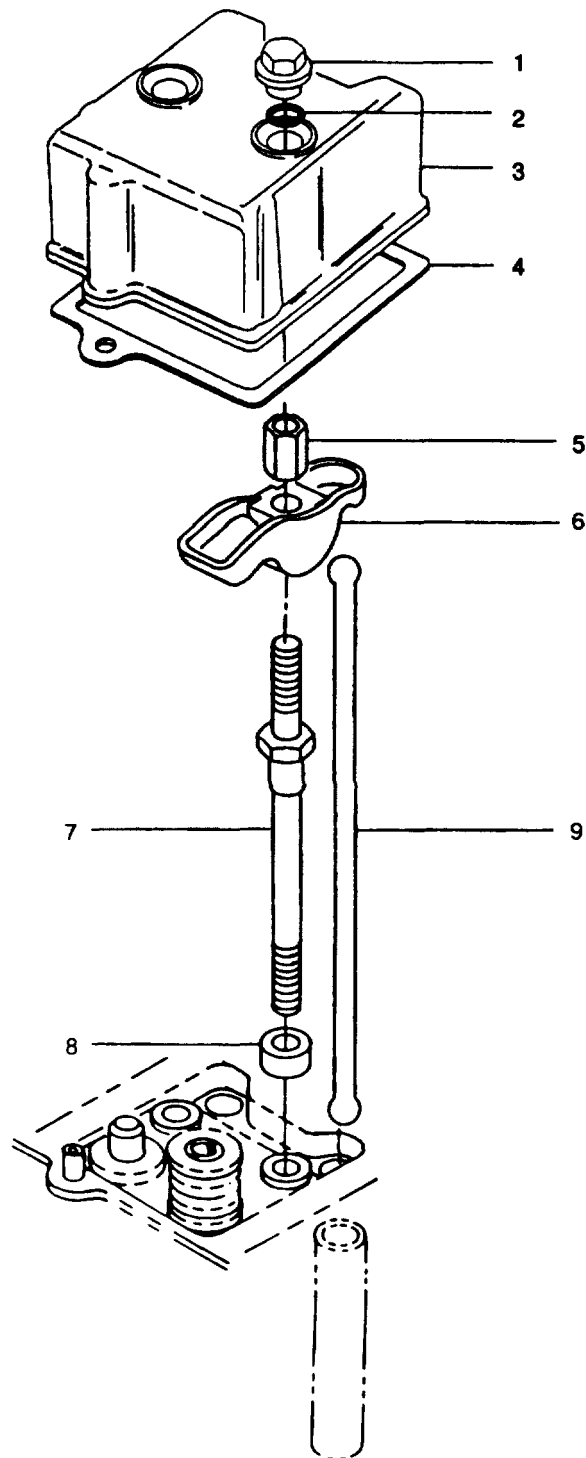

FIGURE 3-27. Cylinder Cover and Rocker Lever
3-25.1. Removal. Remove two nuts (1, FIGURE 3-27) and preformed packings (2) securing each valve cover (3) to cylinder head; remove cover (3) and gasket (4). Discard gasket (4) and preformed packings (2).
- a. Remove any traces of old gasket from cylinder head and valve covers (3, FIGURE 3-27) mating surfaces.
- c. Position each valve cover (3) with new gasket (4) on cylinder head and secure with two nuts (1) and new preformed packings (2). Tighten nuts (1) to 78 in-lbs (8.8 Nm).
- b. Remove nut (5, FIGURE 3-27) securing rocker lever (6) to cylinder head bolt (7); remove rocker lever.
- c. Remove pushrod (9).
- e. Do not remove cylinder head bolt (7) and spacer (8) unless damaged or cylinder head is being removed.
- a. Check pushrod (9, FIGURE 3-27) as follows:
- (1) Lay pushrod on a surface plate.
- (2) Roll pushrod along surface plate checking for curvature with a feeler gage. Normal reading should be 0.008 in. (0.2 mm) or less.
- (3) Inspect both ends of pushrod for excessive wear or damage. If excessive wear or damage is found, replace pushrod.
- a. Lightly oil pushrod (9, FIGURE 3-27) with engine lubricating oil (MIL-L-2104) and install it in cylinder head. Ensure pushrod does not interfere with cylinder head clearance hole.
- b. Lightly oil rocker lever (6) and install it on cylinder head bolt (7). Secure with nut (5) finger tight.
- c. Gradually tighten nut (5) until heel of rocker lever (6) makes contact with ball end of pushrod (9). Ensure rocker lever is centered over valve stem.
- h. Remove four bolts (3), four bolts (4), and eight washers (5). Refer to FIGURE 3-27 and remove eight bolts (7) and spacers (8).